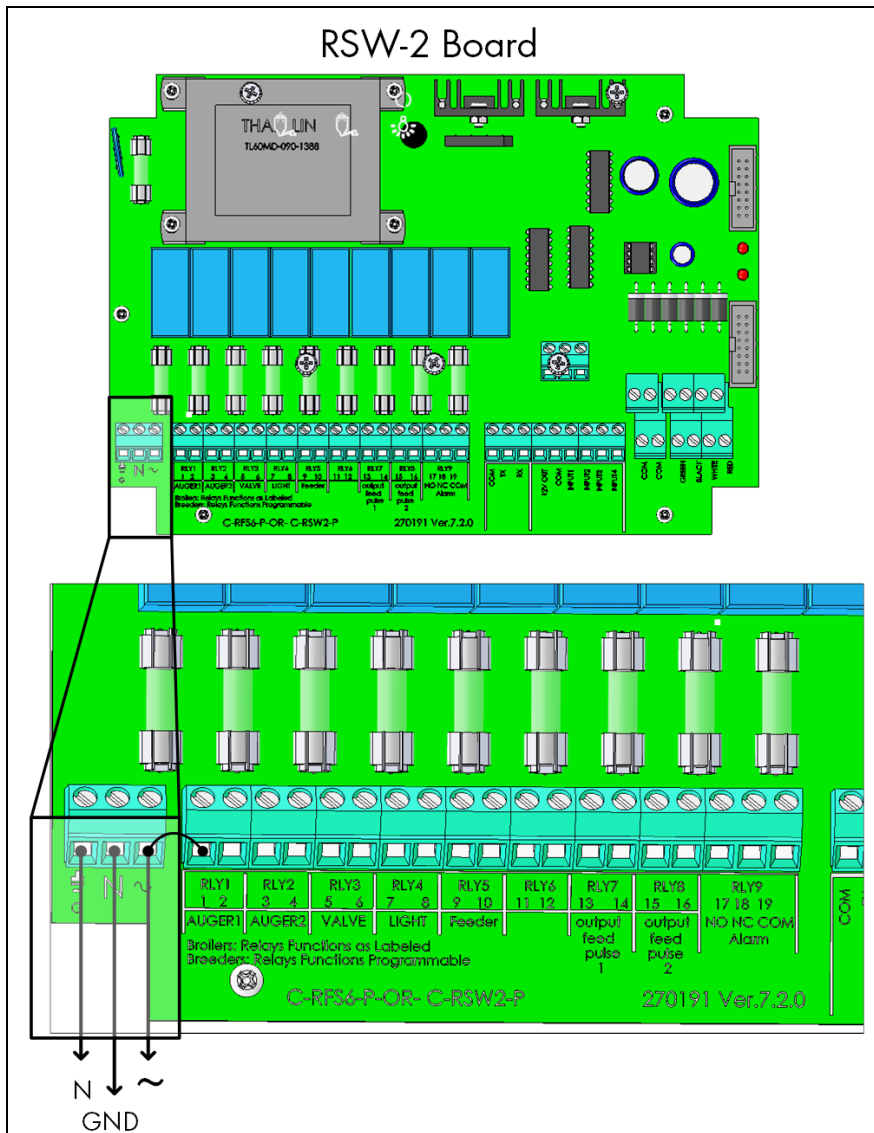

Figure 11: Internal Power Supply Wiring Diagram
- The RSW-2 can power up to six (6) RSLC units internally (Figure 11).